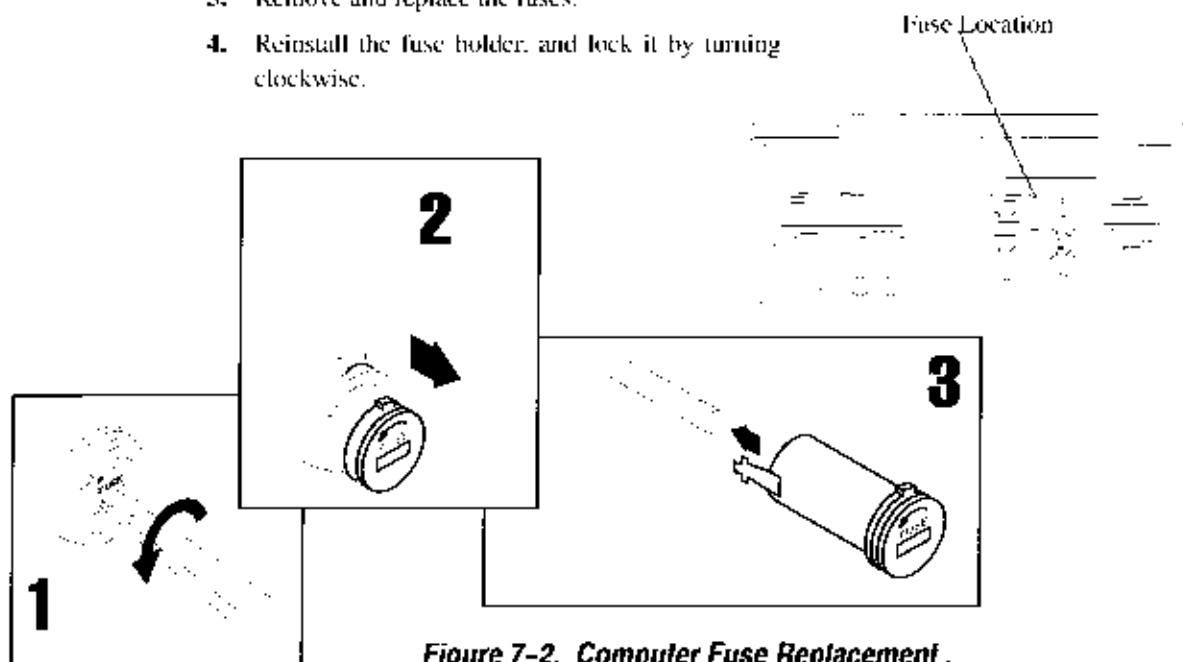

Figure 7-2. Computer Fuse Replacement .
- B. To change fuse in computer unit (figure 7-2):